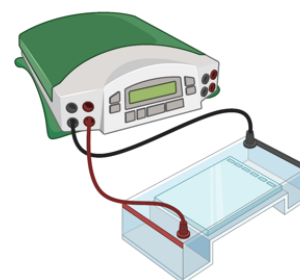

Figure 4. Gel connected to power supply ^[3]
- Make sure the gel is connected to the power supply properly (Figure 4)